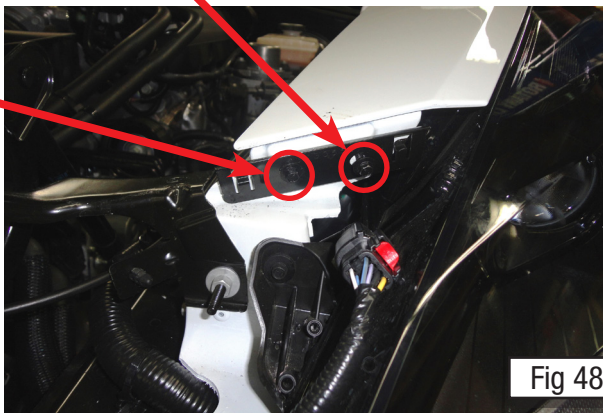

Fig 48.
56. If there are no leaks found, the nose of the car can be installed at this time. The two 7mm bolts and the bracket can be reattached at this time (Fig. 48). The nose can be snapped on at this time, first by snapping it into place next to the headlights (Fig. 49). Make sure the nose sits flush with the fender of the car, if it does not the mounting clip will need adjusted (Fig. 48).